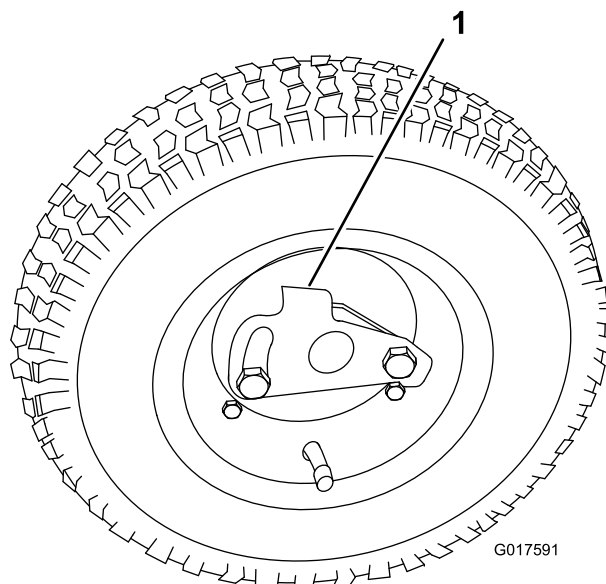

Figure 8
1. Slide the wheel onto the axle (Figure 8).
2. Pivot the wheel locking clip away from center of the wheel allowing it to slide farther onto the axle (Figure 8).